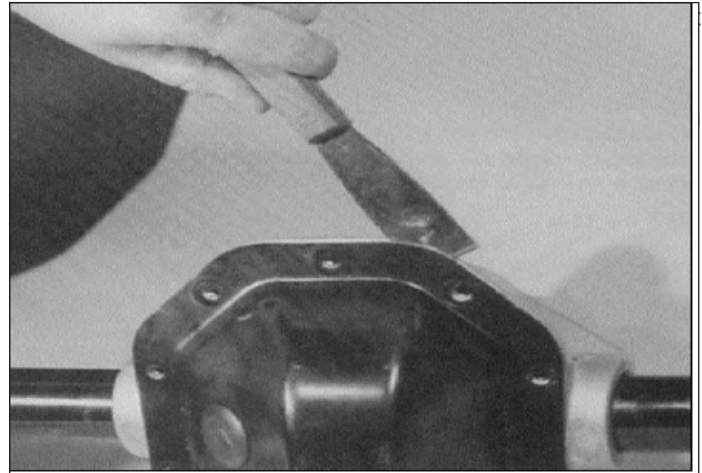

Figure 6-38. Removing Cover Plate
2. Remove ten cover screws (20).
3. Position the axle housing (1) over a drain pan. Using a putty knife, separate the cover plate from the housing (Figure 6-38). Use care to not damage the housing sealing surfaces or to deform the cover plate.
4. Remove four bearing cap bolts (3) and both bearing caps (2).